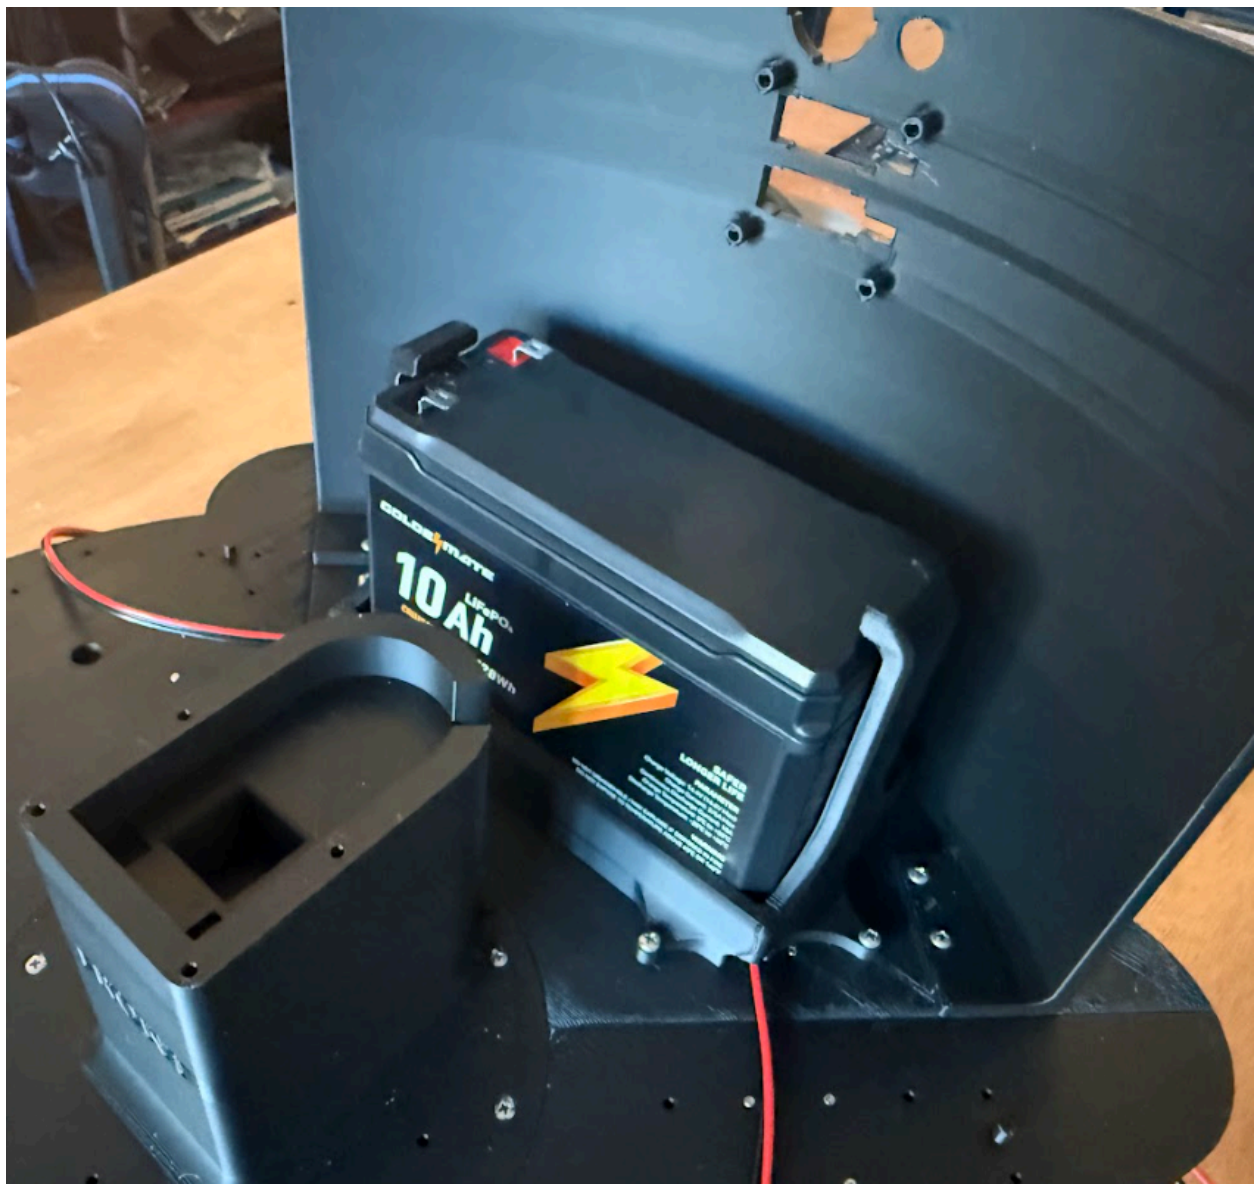

Figure 5.1 - Battery Assembly
- a. Install battery in Battery Holder as shown in Figure 5.1